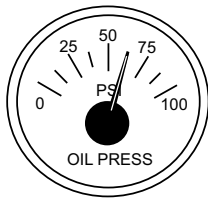

Figure 42. Oil Pressure Gauge
7. The engine oil pressure gauge (Figure 42) will indicate the oil pressure of the engine. Under normal operating conditions the oil pressure is approximately 35 to 65 psi. (193~586 kPa).